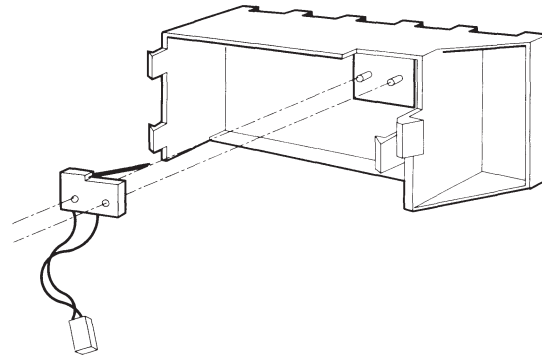

Figure 7-34. Removing the Security Lock Switch Assembly.
6. Carefully remove the security lock switch from the speaker/board guide assembly (Figure 7-34).